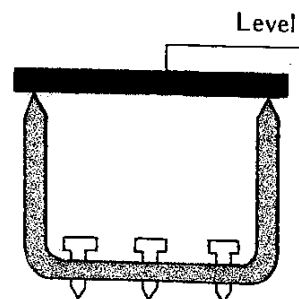

Fig 3
1. Adjust the balancing stand level (Fig 3).
- \* When you dress the grinding wheel, you have to start from the middle because grinding wheel usually wear more on two sides than in the middle. If you dress from two sides to middle, then, it will produce pressure. (fig 3)
(Fig. 3)